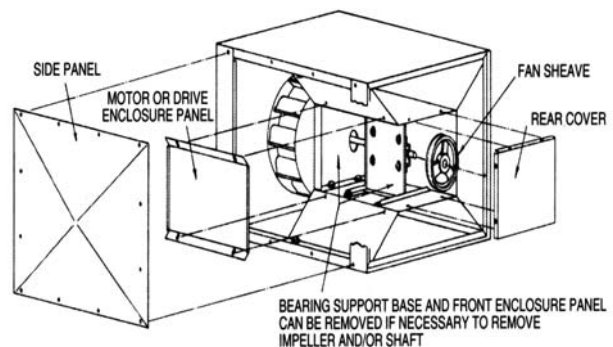

Figure 1
3. Impeller Adjustment: Turn centrifugal impeller by hand to make sure it rotates freely. If impeller hits orifice, remove side panel (both sides are removable) and motor or drive enclosure panel as in shown Figure 1.
6. If it should become necessary to remove the impeller, first remove the motor and impeller or shaft, bearing and impeller assembly. (See Figure 1) On model sizes 120, 137 and 161 there is a sleeve which fits inside the impeller hub. To remove the impeller from the shaft, completely remove the two socket head cap screws that go through the sleeve. The impeller will then slide off the sleeve and the set screws attaching the sleeve can be loosened allowing its removal. The impellers on larger size units are attached with a roll pin. Remove the roll pin by driving it out with a drift pin.